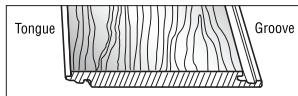

Figure 9
- Lay the first full piece with the small, tongue side facing the wall (Fig. 9).